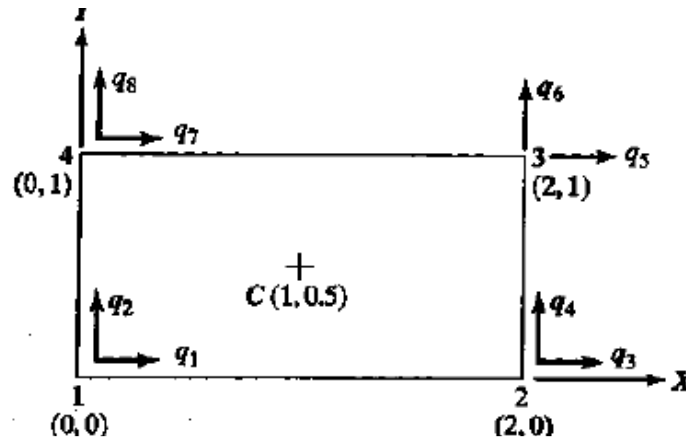

Fig. 5
5. Consider a rectangular element as shown in the Fig. 5. Assume plane stress condition, $E = 200 \times 10^3 \text{ MPa}$, $\mu = 0.3$ and $q = [0, 0, 0.2, 0, 0.15, 0.10, 0, 0.05]^T$. Evaluate J , B and σ at $\xi = 0$ and $\eta = 0$. [12M]